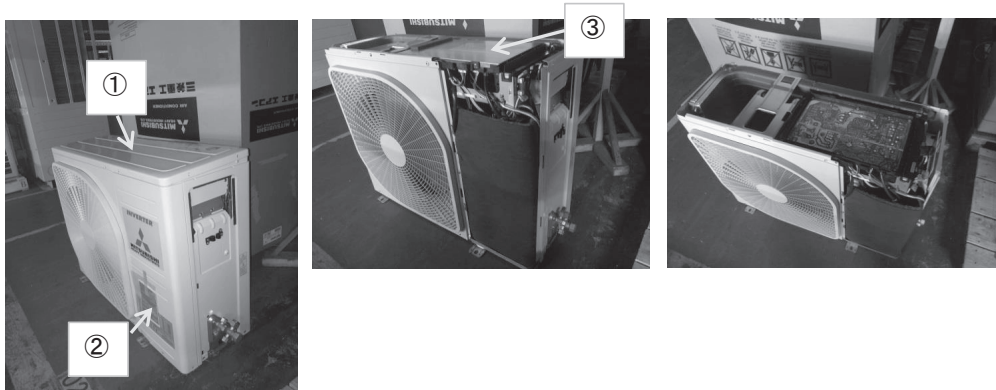

Fig.1 Outdoor unit
- 4) Detach a top panel of control box.(Fig.1 ③)